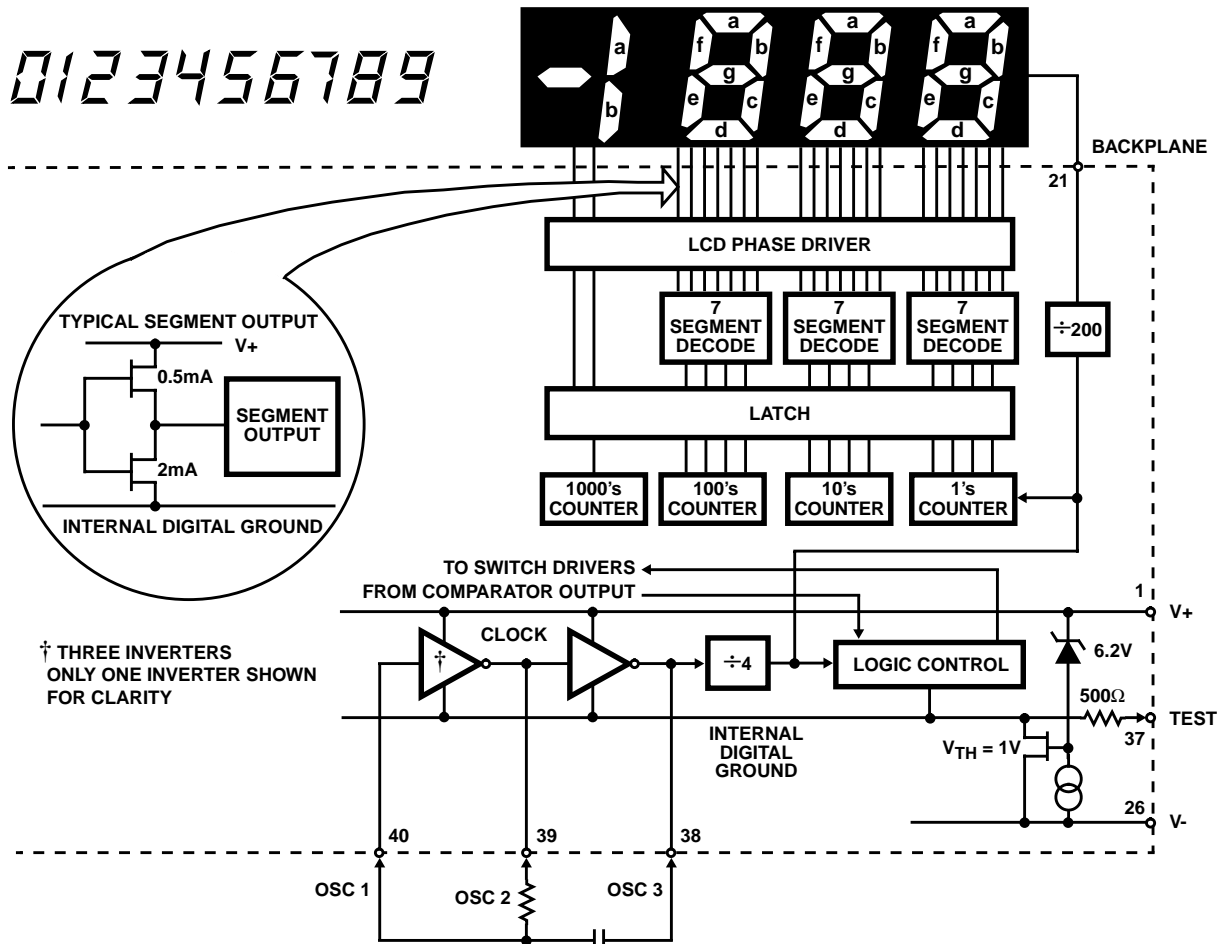

FIGURE 7. ICL7136 DIGITAL SECTION
Figures 7 and 8 show the digital section for the ICL7136 and ICL7137, respectively. In the ICL7136, an internal digital ground is generated from a 6V Zener diode and a large P-Channel source follower. This supply is made stiff to absorb the relative large capacitive currents when the back plane (BP) voltage is switched. The BP frequency is the clock frequency divided by 800. For three readings/second this is a 60Hz square wave with a nominal amplitude of 5V. The segments are driven at the same frequency and amplitude and are in phase with BP when OFF, but out of phase when ON. In all cases negligible DC voltage exists across the segments.